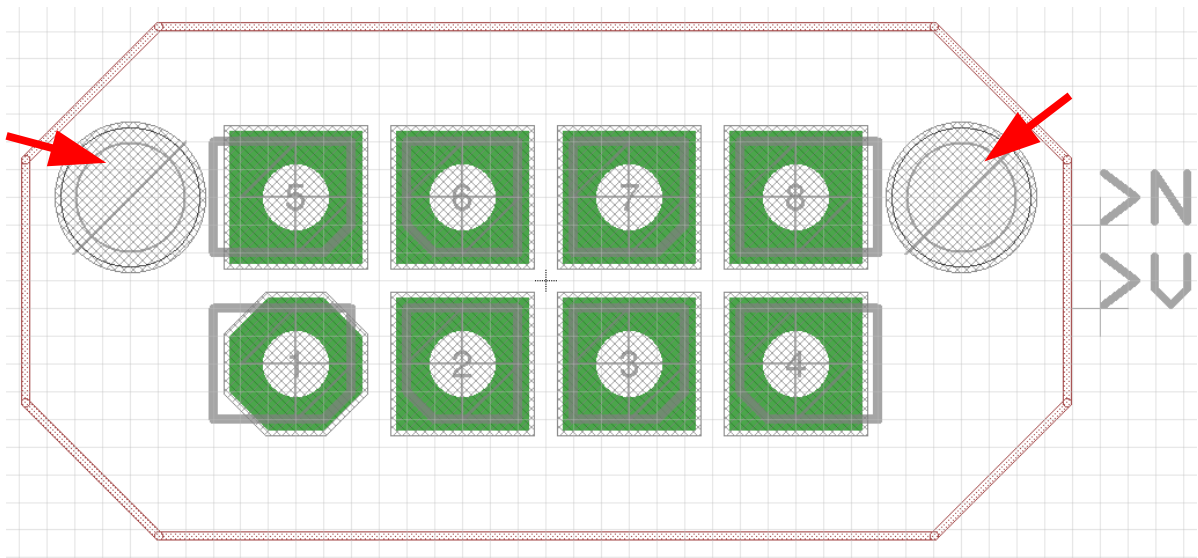

Figure 1: Alignment Pins of a Connector defined in the Library Package Editor
3. Consider alignment pins or bolts connectors are frequently equipped with. Draw holes (preferably in the dimension layer #20 using the command HOLE) where these pins meet the board (Figure 1).